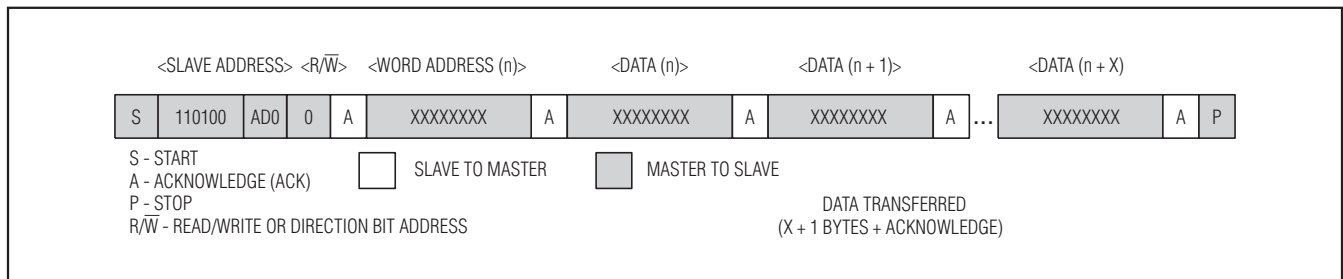

Figure 6. Data Write—Slave Receiver Mode
1) Slave receiver mode (DS1372 write mode): Serial data and clock are received through SDA and SCL. After each byte is received an acknowledge bit is transmitted. START and STOP conditions are recognized as the beginning and end of a serial transfer. Address recognition is performed by hardware after reception of the slave address and direction bit (see Figure 6). The slave address byte is the first byte received after the master generates the START condition. The slave address byte contains the 7-bit DS1372 address, which is 110100 and AD0. Each slave address is followed by the direction bit ($\overline{R/W}$), which is zero for a write. The bit position signified by A is compared to the value on the AD0 input pin. After receiving and decoding the slave address byte, the device outputs an acknowledge on the SDA line. After the device acknowledges the slave address and write bit, the master transmits a register address to the device. This sets the register pointer on the device. After setting the register address, the master then transmits each byte of data with the DS1372 acknowledging each byte received. The master generates a STOP condition to terminate the data write.